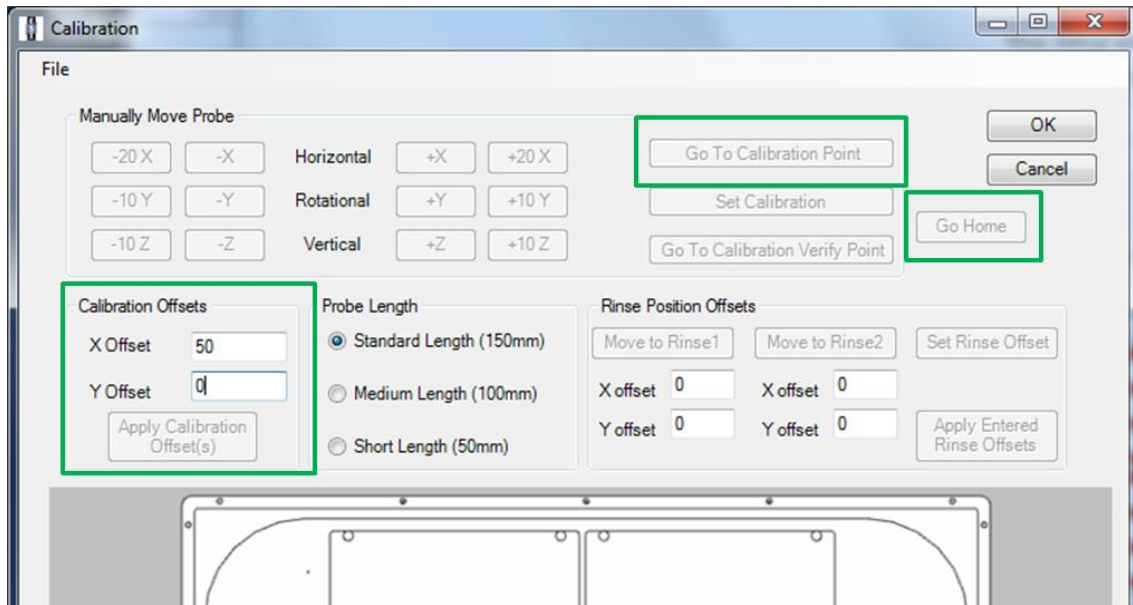

Figure 71: Calibrate Autosampler Window.
- 2) In the **Calibrate>Calibrate Autosampler** window, locate the Y-Offset value and change it to 0 as shown in Figure 71 and then click on “Apply Calibration Offset(s)” button. The arm should rotate and the open side of the vertical rail should now be facing away from the rinse station.